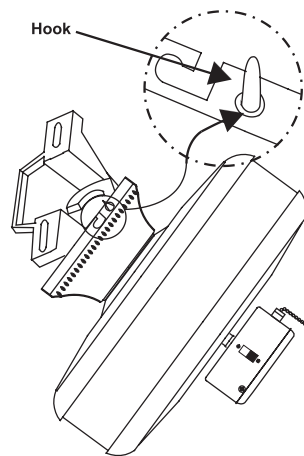

Figure 10
6. Hang the fan on the hook of the hanger bracket. Be certain that the canopy is fully locked into hook as shown in (Fig.10). This will allow you to make the electrical connections.